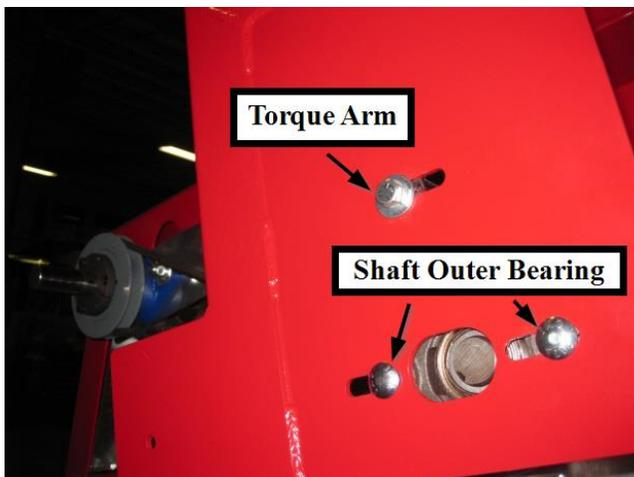

Figure 3
4. Loosen the three bolts retaining shaft outer bearing and torque arm. Loosen two bolts retaining shaft inner bearing. Loosen shaft inner bearing collar set-screw. See Figures 3 & 4.